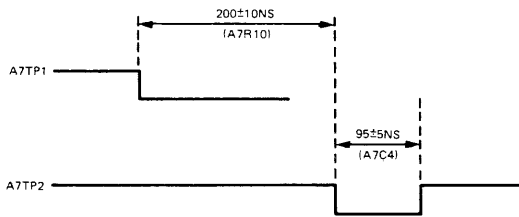

Figure 5-2. Delay and Clock Width Adjustments
- e. Adjust delay clock A7R10 for 200-ns delay (± 10 ns) between falling edges of signals at A7TP1 and A7TP2 (figure 5-2).
- f. Adjust clock width A7C4 for 95 ± 5 ns between falling edge and rising edge of signal at A7TP2 (figure 5-2).